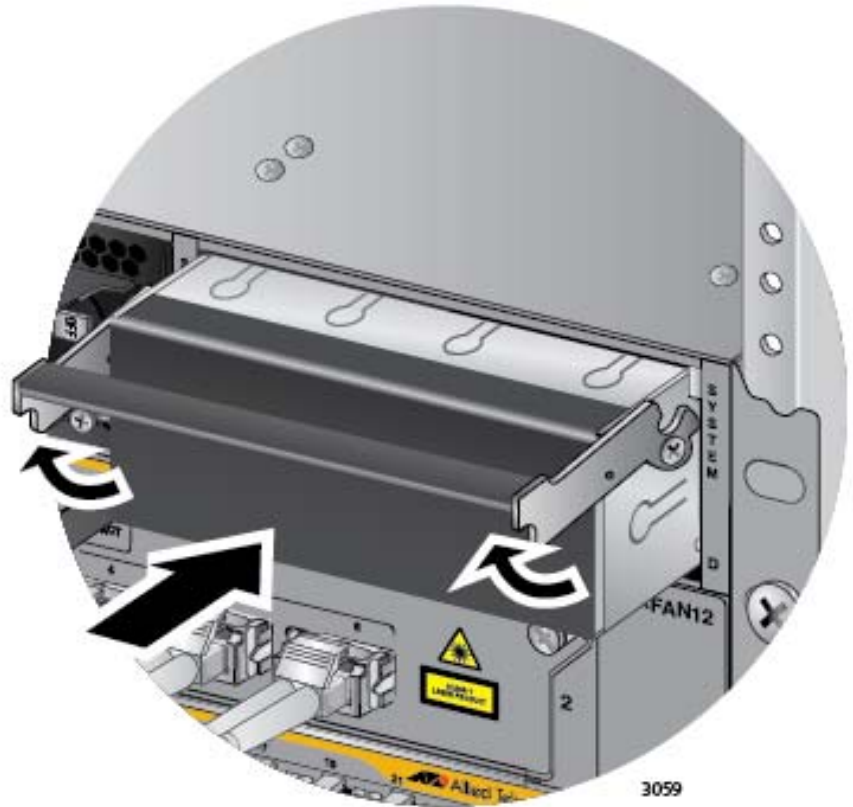

Figure 158. Installing a Blank Power Supply Slot Cover
13. Place the locking handle on the slot cover in the up position and slide the cover into the empty power supply slot. Refer to Figure 158 on page 249.